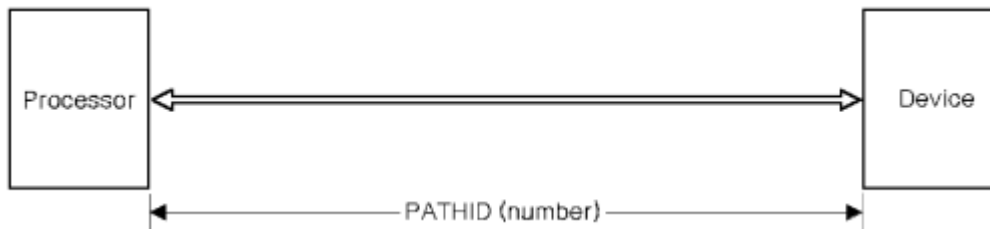

Figure 63. Example of a logical link connection
- Logical link connection (Figure 63 on page 56)